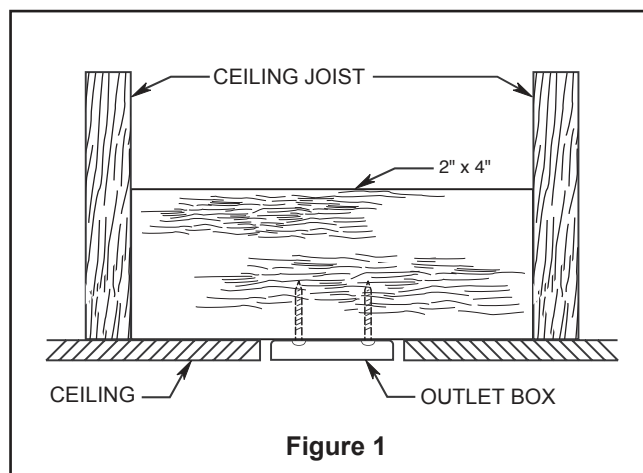
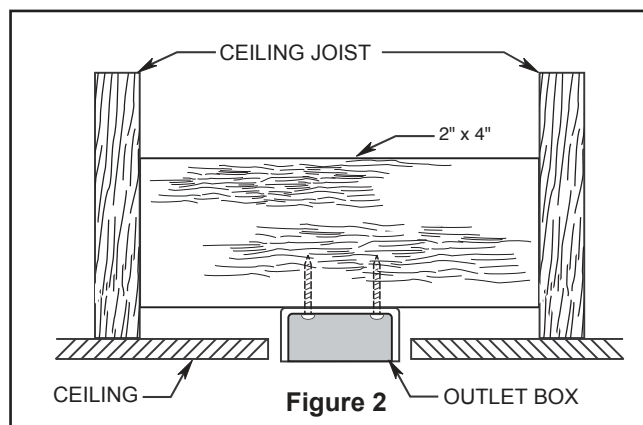
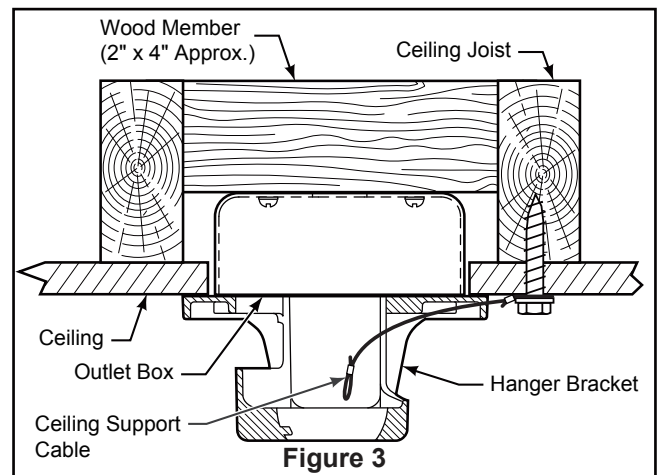

Figure 1
Figure 2
Figure 3
Your new ceiling fan will require a grounded electrical supply line of 120 volts AC, 60 HZ, 15 Amp Circuit. Electrical code requires use of a fan-rated outlet box to support the extra weight and motion associated with a ceiling fan. A fan-rated box will be labeled as such and typically supports up to a 70lb ceiling fan. Fan-Rated Outlet Boxes vary in ratings and design. Ensure the ratings of your ceiling fan outlet box meet the requirements for the ceiling fan being installed. Figure 1, Figure 2 and Figure 3 depicts different structural configurations that may be used for mounting the outlet box.
### Low profile box (Figure 1)
### Deep box (Figure 2)
### Deep box with brace (Figure 3)
3. Loosen the two set screws and locking nuts in the downrod support of the motor housing assembly. Route the brown, blue, red, gray, yellow wires and safety cable through the downrod. (Figure 3)
1. Securely attach the hanger bracket to the outlet box using the outlet box screws and washers supplied with the outlet box. (Figure 3)
2. Drill a 1/4" pilot hole into the building structure to prevent splitting or cracking with installation of the lag bolt. Using the 3/8" x 2" lag bolt and flat washer, attach safety cable to ceiling joist or wood structural member. The lag bolt will pass through the flat washer, safety cable loop, and into the building structure. (Figure 3)
**NOTE:** Ceiling support cable cannot be secured to outlet box only, it must be directly secured to ceiling joist or structural member using the 3/8" x 2" lag bolt and flat washer. (Figure 3)
2. Slide the receiver into the hanger bracket before wiring as shown in figure 3.
3. Remove the battery cover from remote control by screwdriver and retain the screw for later. (Figure 3)